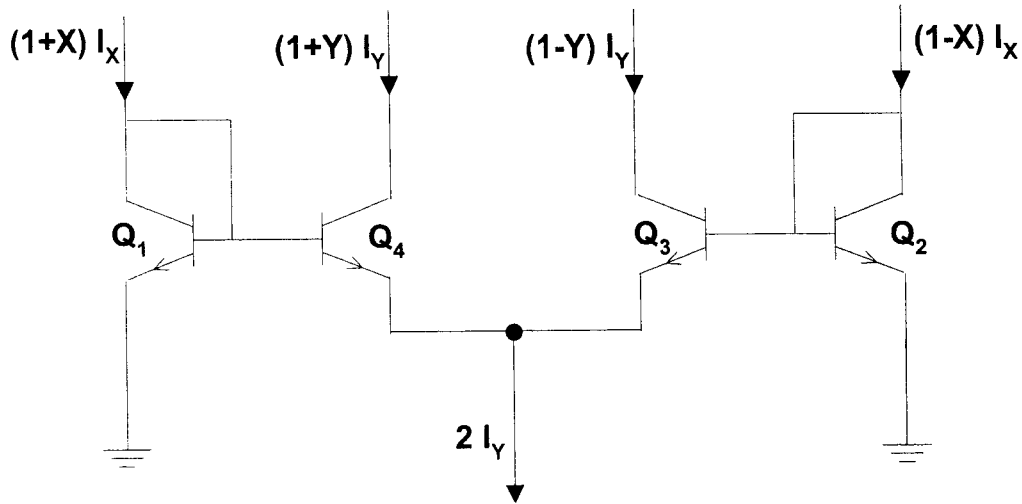

Figure 4.1
- a. Figure 4.1 illustrates the type A translinear gain cell. The currents $(1 \pm Y)I_Y$ and $(1 \pm X)I_X$ correspond to the output and the input currents respectively. I_X and I_Y are dc currents whereas Y and X are the output and the input modulation indices respectively.